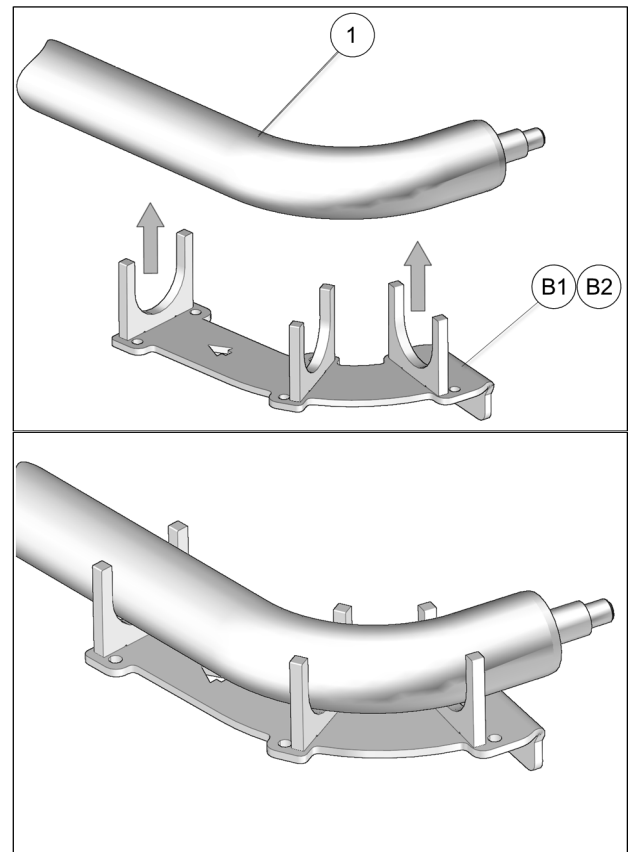

Fig. 3
4. Position rear anchor bracket (B1-B2) under rear suspension trailing arm (1). See Fig. 3